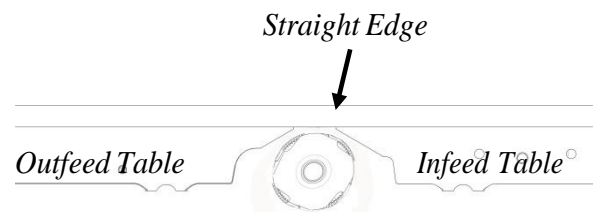

Figure 34:
**STEP 2:** Place straight edge across infeed and outfeed tables as in **FIG. 34**. If inserts interfere with straight edge, rotate the cutterhead.